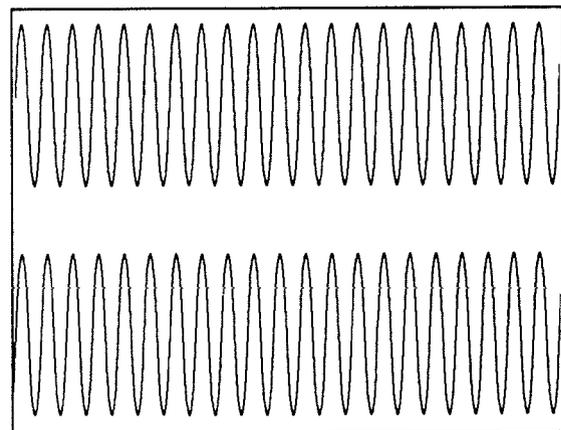

Figure 8. Double-Check of Alignment
(G) Double check the cell alignment by running a 100% STEREO ALIGNMENT film. The amplitude of the two 100% modulated waveforms should be identical (see Figure 8). If one is greater than the other, while the modulated waveforms of the 50% level film are identical, there is a problem with the scanning beam. Either the slit is not uniformly illuminated along its length, or the scanning beam is not in perfect alignment with the film guide roller and solar cell. Since most soundhead optics cannot be moved in or out, it will be necessary to reposition the film guide roller and realign the solar cell, so that both the 50% and 100% modulated tones match from channel to channel. When this fine alignment is not done, loud sounds (above 50% modulation) will be distorted and will leak into the surround loudspeakers.